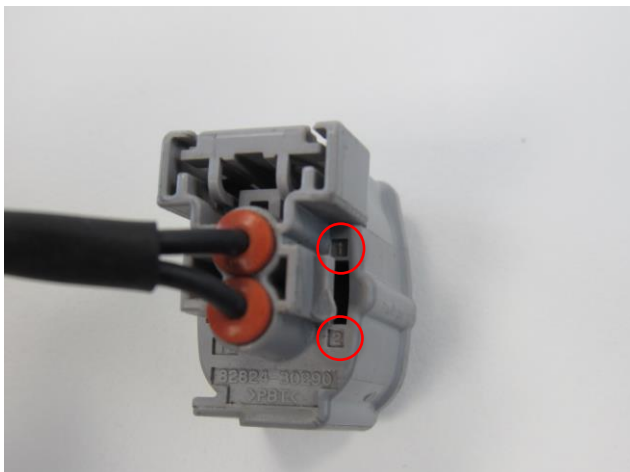

Fig 1
- ✓ Unplug the HP pump connector, identify the two wires with their numbers marked at the back of the connector (fig 1)